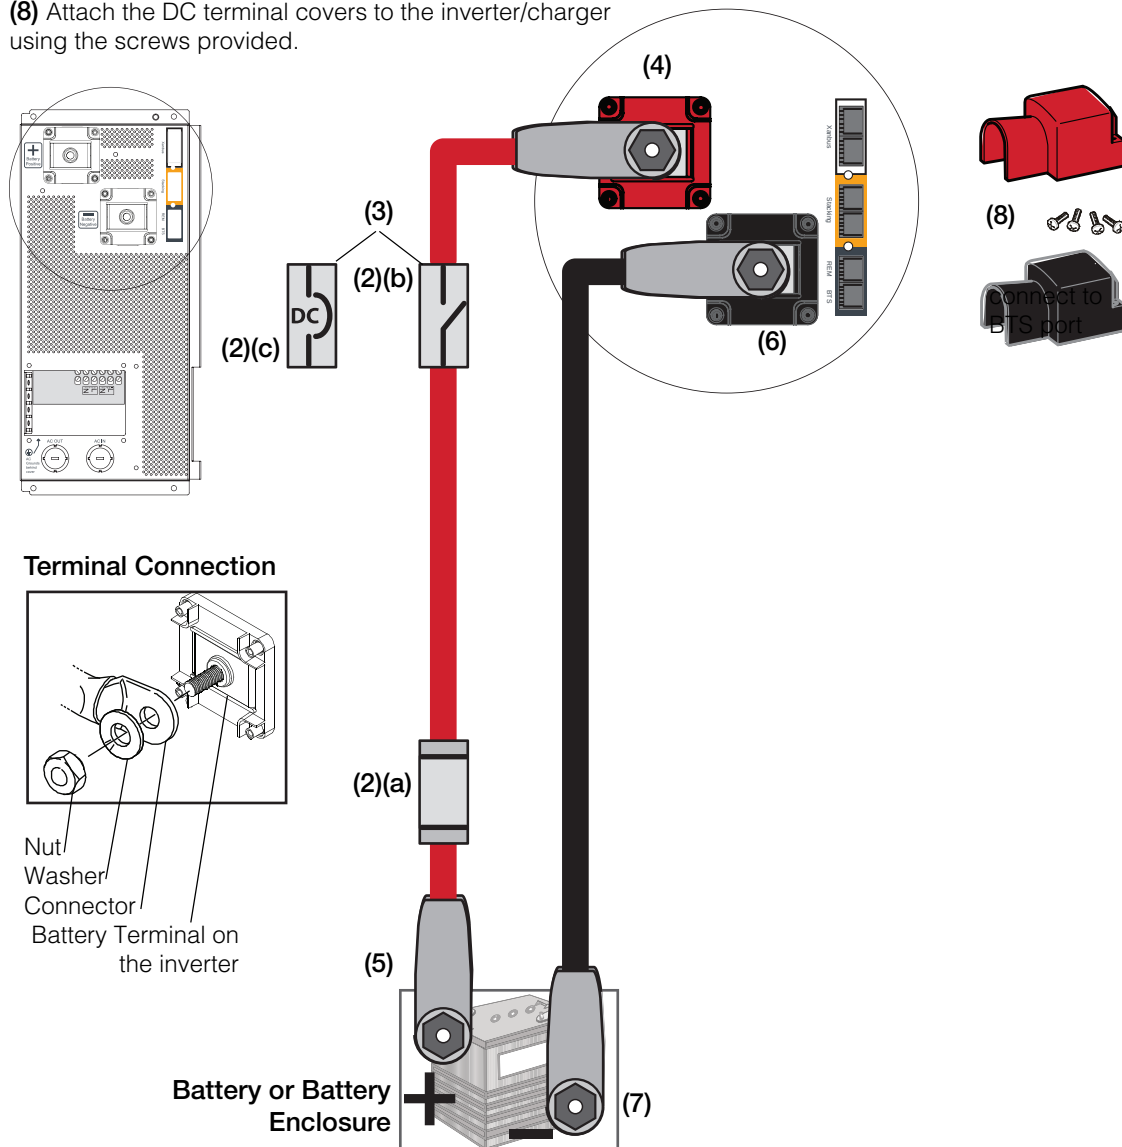

Figure 1-11 Conext SW DC Connections
- Make sure the DC cables, washers, and nuts are assembled in the order shown in Terminal Connection in Figure 1-11 on page 1–24.